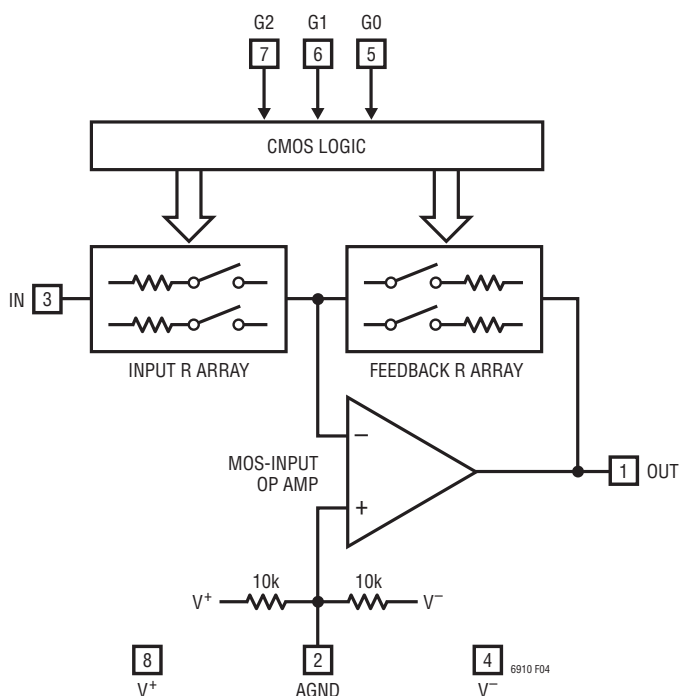
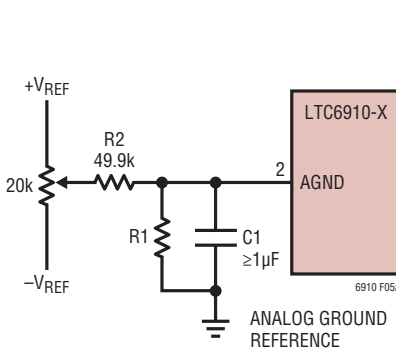

Figure 4. Block Diagram
Figure 5a. Offset Nulling
**AGND (Pin 2):** Analog Ground. The AGND pin is at the midpoint of an internal resistive voltage divider, developing a potential halfway between the  $V^+$  and  $V^-$  pins, with an equivalent series resistance to the pin of nominally 5k $\Omega$  (Figure 4). AGND is also the noninverting input of the internal op amp, which makes it the ground reference voltage for the IN and OUT pins. Because of this, very “clean” grounding is important, including an analog ground plane surrounding the package.
**IN (Pin 3):** Analog Input. The input signal to the amplifier in the LTC6910-X is the voltage difference between the IN and AGND pins. The IN pin connects internally to a digitally controlled resistance whose other end is a current summing point at the same potential as the AGND pin (Figure 4). At unity gain (digital input 001), the value of this input resistance is approximately 10k $\Omega$  and the IN voltage range is rail-to-rail ( $V^+$  to  $V^-$ ). At gain settings above unity (digital input 010 or higher), the input resistance falls. Also, the linear input voltage range falls in inverse proportion to gain. (The higher gains are designed to boost lower level signals with good noise performance.) Tables 1, 2, and 3 summarize this behavior. In the “zero” gain state (digital input 000), analog switches disconnect the IN pin internally and this pin presents a very high
The LTC6910 family are small outline, wideband inverting DC amplifiers whose voltage gain is digitally programmable. Each delivers a choice of eight voltage gains, controlled by the 3-bit digital inputs to the G pins, which accept CMOS logic levels. The gain code is always monotonic; an increase in the 3-bit binary number (G2 G1 G0) causes an increase in the gain. Table 1, Table 2 and Table 3 list the nominal voltage gains for LTC6910-1, LTC6910-2 and LTC6910-3 respectively. Gain control within each amplifier occurs by switching resistors from a matched array in or out of a closed-loop op amp circuit using MOS analog switches (Figure 4). Bandwidth depends on gain setting. Curves in the Typical Performance Characteristics section show measured frequency responses.
Settling time in the CMOS gain-control logic is typically several nanoseconds and faster than the analog signal path. When amplifier gain changes, the limiting timing is analog, not digital, because the effects of digital input changes are observed only through the analog output (Figure 4). The LTC6910-X's logic is static (not latched) and therefore lacks bus timing requirements. However, as with any programmable-gain amplifier, each gain change causes an output transient as the amplifier's output
The electrical tables list DC offset (error) voltage at the inputs of the internal op-amp in Figure 4,  $V_{OS(OA)}$ , which is the source of DC offsets in the LTC6910-X. The tables also show the resulting, gain dependent offset voltage referred to the IN pin,  $V_{OS(IN)}$ . These two measures are related through the feedback/input resistor ratio, which equals the nominal gain-magnitude setting, G:
Offset voltages at any gain setting can be inferred from this relationship. For example, an internal offset  $V_{OS(OA)}$  of 1mV will appear referred to the IN pin as 2mV at a gain setting G of 1, or 1.5mV at a gain setting of 2. At high gains,  $V_{OS(IN)}$  approaches  $V_{OS(OA)}$ . (Offset voltage can be of either polarity; it is a statistical parameter centered on zero.) The MOS input circuitry of the internal op amp in Figure 4 draws negligible input currents (unlike some op amps), so only  $V_{OS(OA)}$  and G affect the overall amplifier's offset.
Because internal op amp offset voltage  $V_{OS(OA)}$  is gain independent as noted above, offset trimming can be readily added at the AGND pin, which drives the noninverting input of the internal op amp. Such a trim shifts the AGND voltage slightly from the system's analog ground reference, where AGND would otherwise connect directly. This is convenient when a low resistance analog ground potential or analog ground reference exists, for the return of a voltage divider as in Figure 5a. When adjusted for zero DC output voltage when the LTC6910-X has zero DC input voltage, this DC nulling will hold at other gain settings also.
Figure 5a shows the basic arrangement for dual-supply applications. A voltage divider (R1 and R2) scales external reference voltages  $+V_{REF}$  and  $-V_{REF}$  to a range equaling or slightly exceeding the approximately  $\pm 10\text{mV}$  op amp offset-voltage range. Resistor R1 is chosen to drop the  $\pm 10\text{mV}$  maximum trim voltage when the potentiometer is set to either end. Thus if  $V_{REF}$  is 5V, R1 should be about  $100\Omega$ . Note also that the two internal 10k resistors in Figure 4 tend to bias AGND toward the mid-point of  $V^+$  and  $V^-$ . The external voltage divider will swamp this effect if R1 is much less than  $5\text{k}\Omega$ . When considering the effect of the internal 10k resistors, note that they form a Thévenin equivalent of  $5\text{k}$  in series with an open-circuit voltage at the halfway potential  $(V^+ + V^-)/2$ . (Although
With this trim technique in place, the remaining DC offset sources are drifts with temperature (typically  $6\mu\text{V}/^\circ\text{C}$  referred to  $V_{OS(OA)}$ ), shifts in the LTC6910-X's supply voltage divided by the PSRR factors, supply voltage shifts coupling through the two 10k internal resistors of Figure 4, and of course any shifts in the reference voltages that supply  $+V_{REF}$  and  $-V_{REF}$  in Figure 5a.
At a gain setting of 10V/V in an LTC6910-1 (digital input 100) and a 250ksps sampling rate in the LTC1864, a 10kHz input signal at 60% of full scale shows a THD of -87dB at the digital output of the ADC. 100kHz input signals under the same conditions produce THD values around -75dB. Noise effects (both random and quantization) in the ADC are divided by the gain of the amplifier when referred to  $V_{IN}$  in Figure 4. Because of this, the circuit can acquire a signal that is 40dB down from full scale of 5VP-P with an SNR of over 70dB. Such performance from an ADC alone ( $70 + 40 = 110\text{dB}$  of useful dynamic range at 250ksps), if available, would be far more expensive.